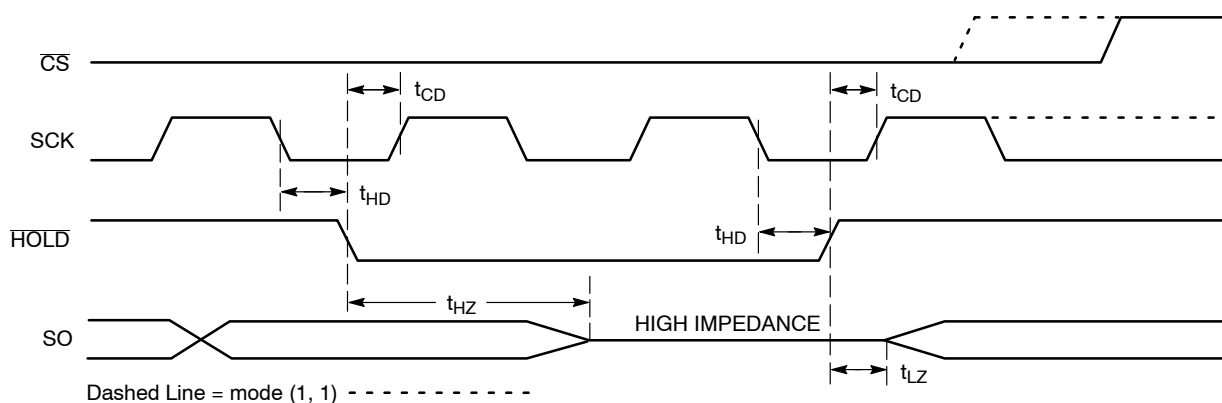

Figure 10. HOLD Timing
The $\overline{\text{HOLD}}$ input can be used to pause communication between host and NV250x0. To pause, $\overline{\text{HOLD}}$ must be taken low while SCK is low (Figure 10). During the hold condition the device must remain selected ($\overline{\text{CS}}$ low). During the pause, the data output pin (SO) is tri-stated (high impedance) and SI transitions are ignored. To resume communication, $\overline{\text{HOLD}}$ must be taken high while SCK is low.